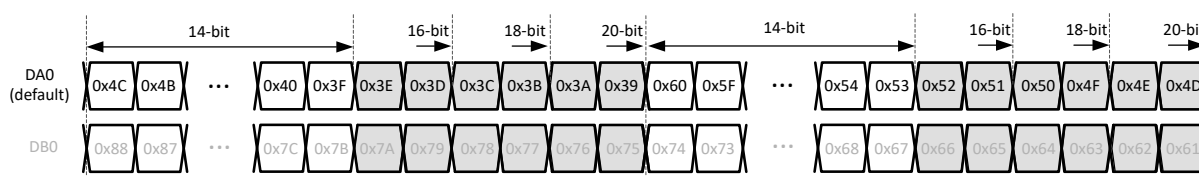

图 8-38. 1/2-wire output bit mapping
**1/2-wire mode:** The output is only lane DA0 and the sample order is programmed into the 40 addresses of chA (from 0x39 to 0x60). It covers 2 samples (one for chA, one for chB) as shown below. If desired it can be duplicated on DB0 as well (using addresses shown 图 8-38) in order to have a redundant output. Lane DB0 needs to be powered up in that case.